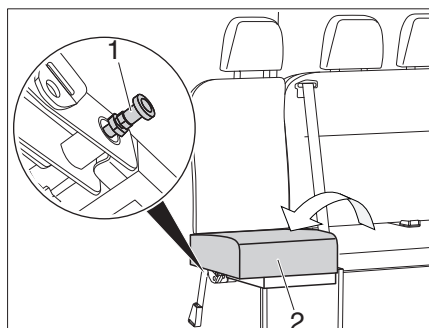

Fig. 45 Fold out seat
- Fold out the seat (Fig. 45,2) and secure it with the lock (Fig. 45,1).